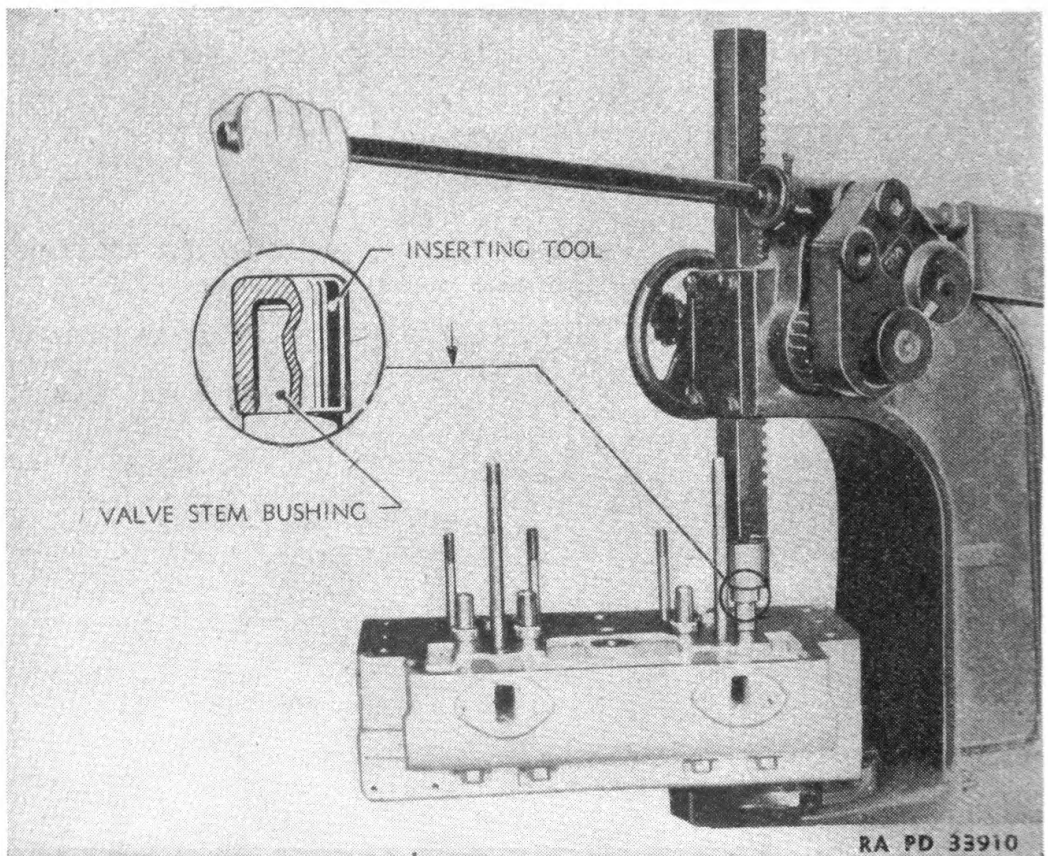

FIGURE 21.—Inserting valve stem bushing.
(1) The valve stem bushings can be driven out from the inside of the head with a suitable drift.
(2) The bushings should be pressed into place carefully with the type of driver shown in figure 21 to prevent damage to their ends.
(3) Bushings should always be reamed to .499 inch to .500 inch after they have been pressed into place.